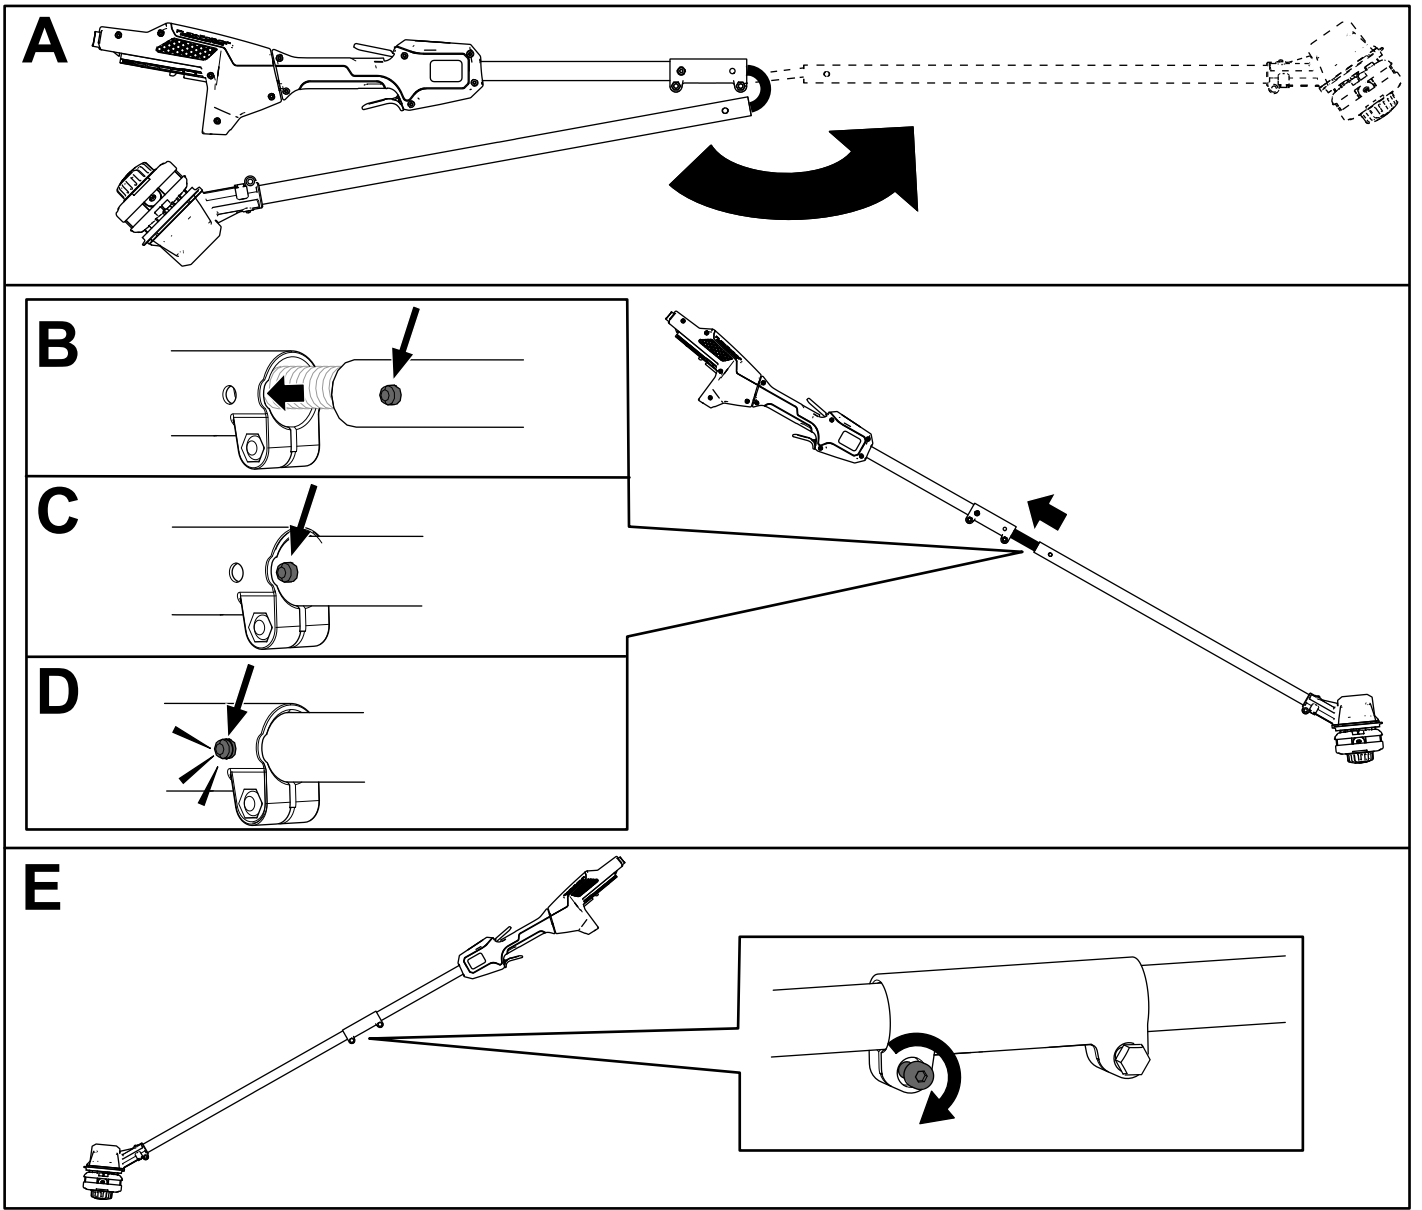

Figure 1
1. Unfold the shaft (A of Figure 1).
2. Align the locking button on the lower shaft with the slotted hole on the upper shaft and slide the 2 shafts together (B and C of Figure 1).
**Note:** The locking button clicks into the slotted hole when both shafts are secured (D of Figure 1).
3. Using the provided Allen wrench, tighten the screw on the shaft connector until it is secure (E of Figure 1).